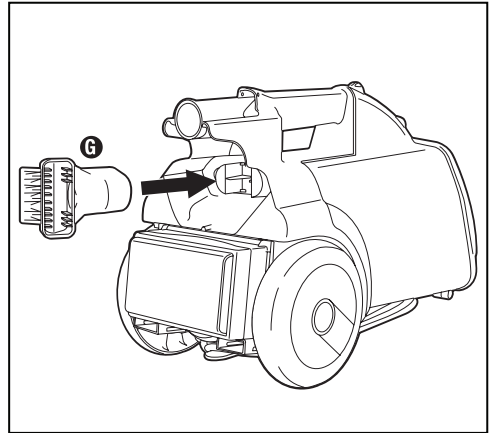

Fig.4
- Step 4:** Place combination tool **G** in storage position on the back side of the canister (Fig. 4).